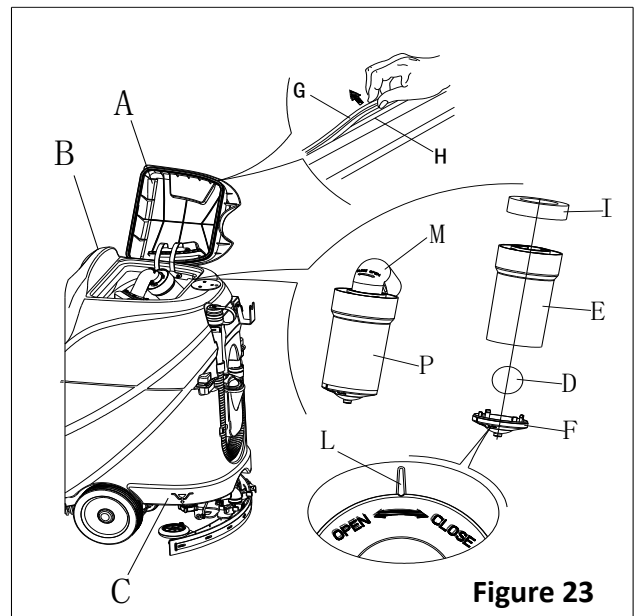

Figure 23
2. Ensure that the machine is off and the ignition key (40) has been removed.
3. Turn the recovery tank lid (A, Figure 23) 90 degree position where it can be taken off from the tank, and then take down the float ball filter (P) from the tank.
4. Clean the recovery tank lid (A), recovery tank (B), clean water tank (C) and the float ball filter support frame (E). Empty the recovery tank with the drain hose (15).
5. If necessary, follow the symbols "OPEN" and "CLOSE" as shown in Figure 23 to open the bottom cover (F) of float ball filter and then clean the float ball (D), filter support frame (E) and filter sponge (I). After cleaning, fix the float ball (D) into the filter support frame (E) and then align the mark groove (L) of the bottom cap (F) of the float ball filter with the mark groove (L) of the float filter support frame (E). Screw the bottom cap of the float ball filter tight, and fix the filter sponge (I) onto the float filter support frame (E). Finally, connect it to the sewage suction hose (M).
7. Check whether the contact surface of sealing strip (G) is integrity and sealing is sufficient. If necessary, take the sealing strip of the tank out of the groove (H) and replace it. Assemble the new sealing strip as shown in Figure 23, the joint should be back in the middle area.
8. Close the recovery tank lid (A).